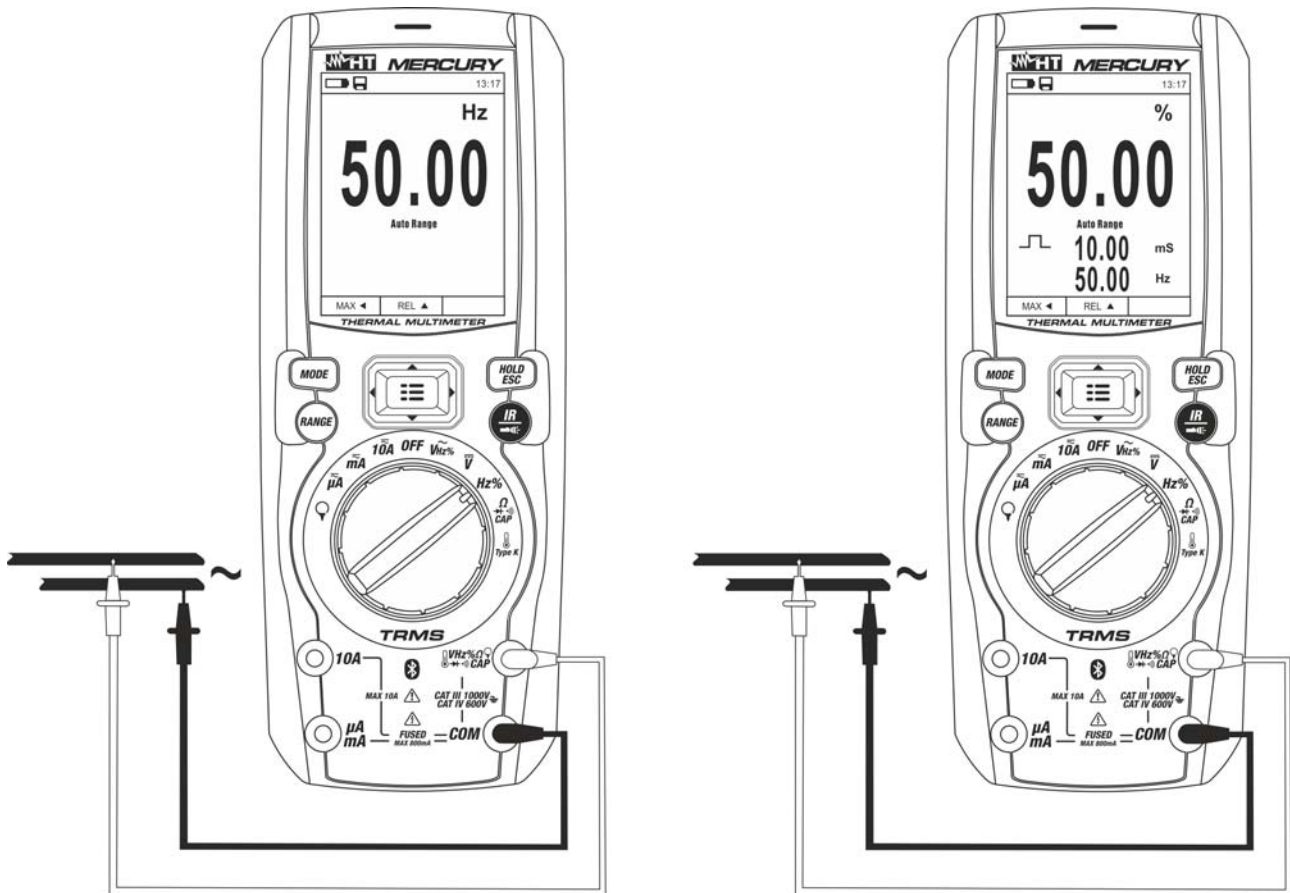

Fig. 23: Use of the instrument for frequency measurement and duty cycle test.
4. Position the red lead and the black lead respectively in the spots of the circuit to be measured (see Fig. 23). The value of frequency (Hz) or of duty cycle (%) is shown on the display. The bargraph is not active in these functions.